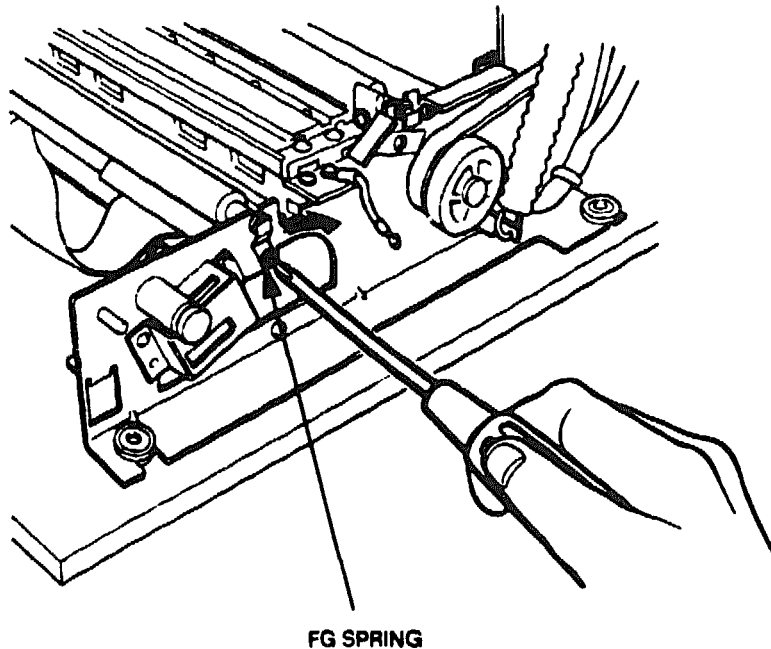

Figure 6-38 FG Spring
3. Remove the DC fan (R).
4. As shown in Figure 6-38, loosen the FG spring screw on the right side of the printer frame. Then move the FG spring away from the feed roller shaft.